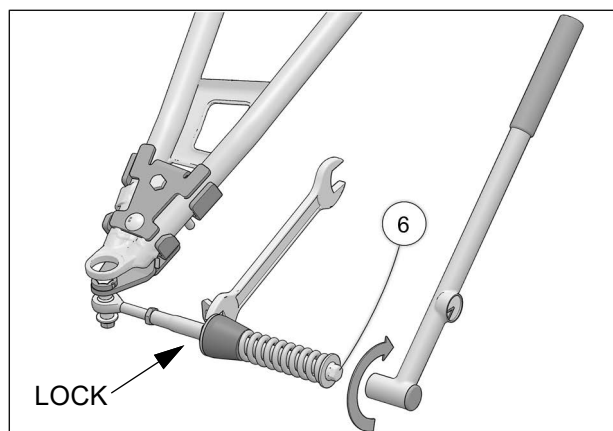

Fig. 19
10. Verify that spring assembly bolt (**6**) is tightened to the recommended torque specification: 75 Nm [55 lb•ft]. Make sure to lock in position, the large nut in front of the rubber cone damper. Refer to Fig. 19